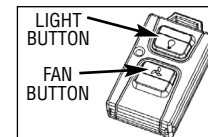

Fig. 10
2. Press the light button on the remote control to turn on the light. The number of times you press the button will allow you to choose your lighting preference (Fig. 10):
2. Press the fan button on the remote control to turn on the fan. The number of times you press the button will allow you to choose the fan speed (Fig. 10):